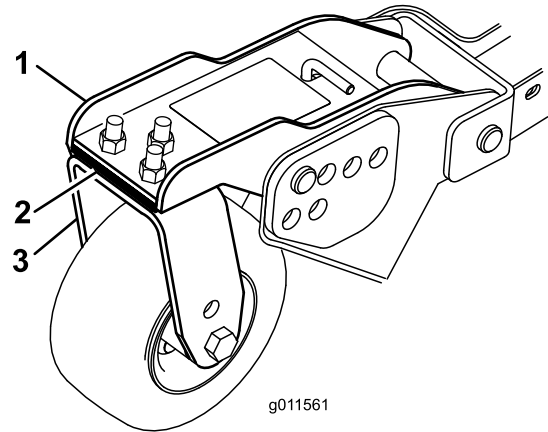

Figure 78
1. Remove the cap screws and nuts securing the castor arm to the castor fork (Figure 78).